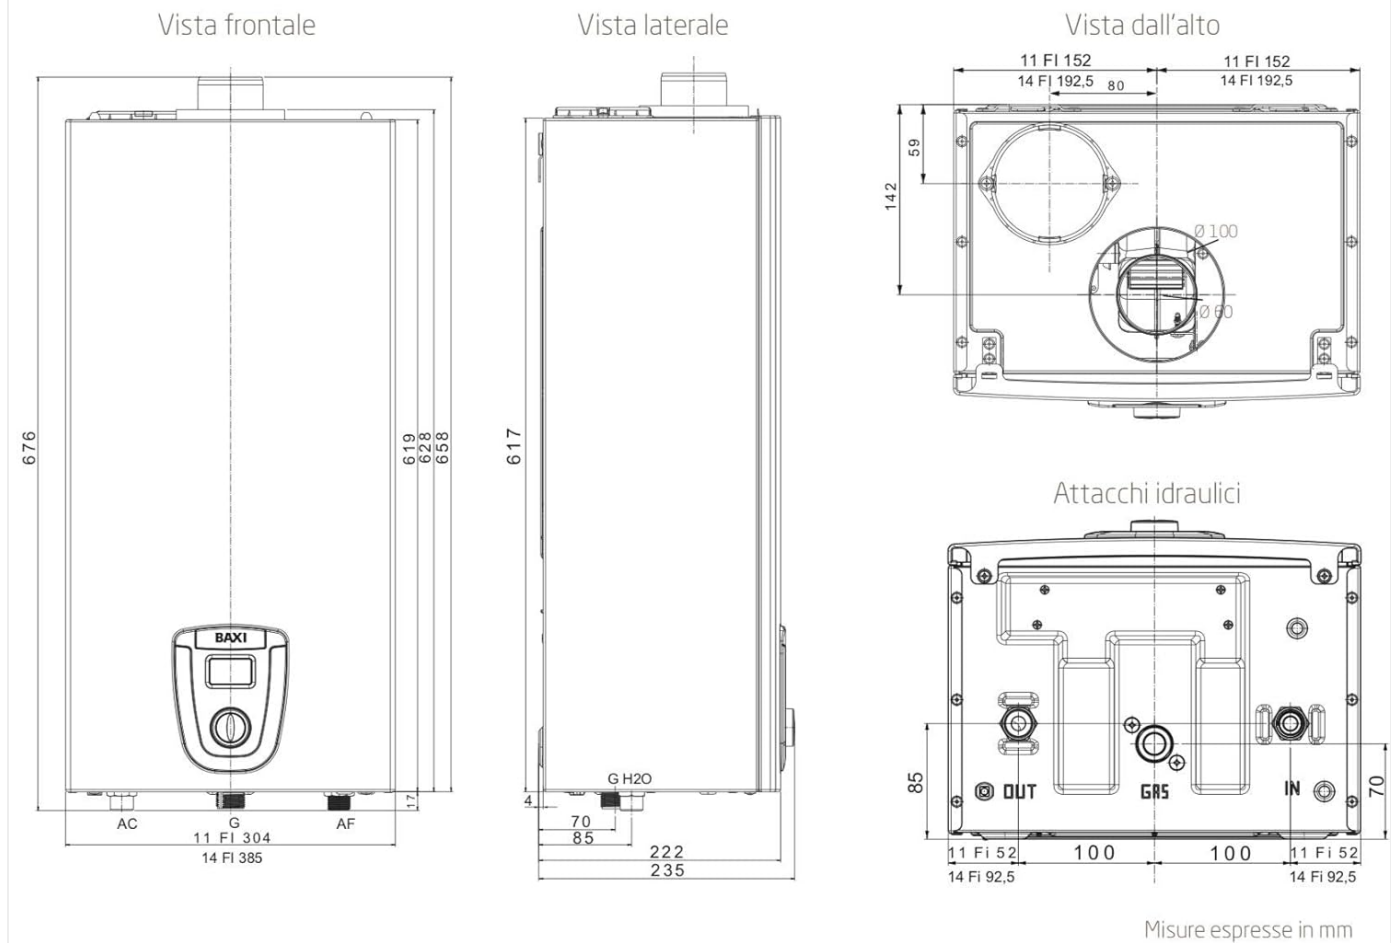

Figure 3: Front, side, top views, and hydraulic connections of the water heater. Dimensions are in millimeters.
- **Water Connections:** Connect the cold water inlet and hot water outlet as indicated in Figure 3. Ensure proper sealing to prevent leaks.